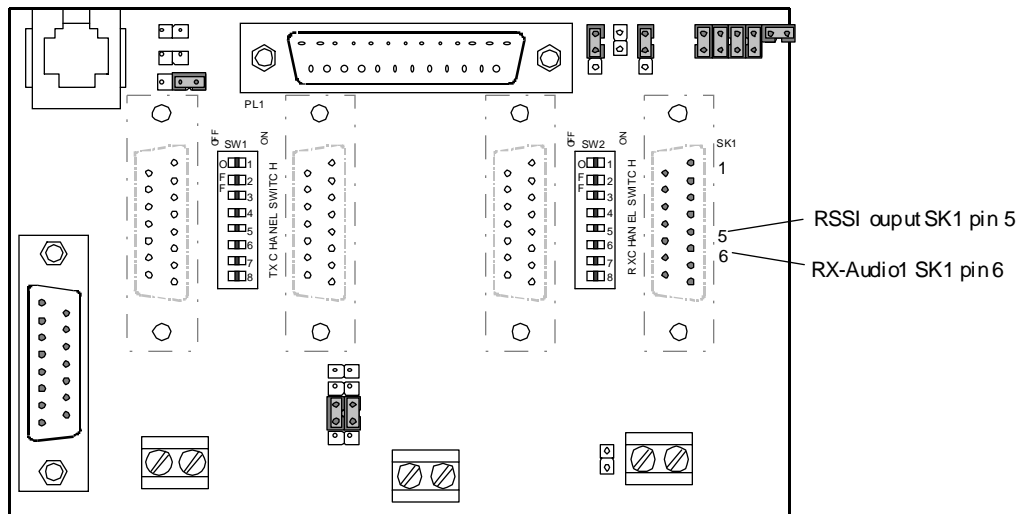

Figure 30 – T800-50-0001 Backplane and test pins location
- Adjust RV320 (RSSI level) to give 2.0V RSSI output at SK330 pin 2 or on backplane SK1 pin 5 when measured with a voltmeter (See Figure 30).